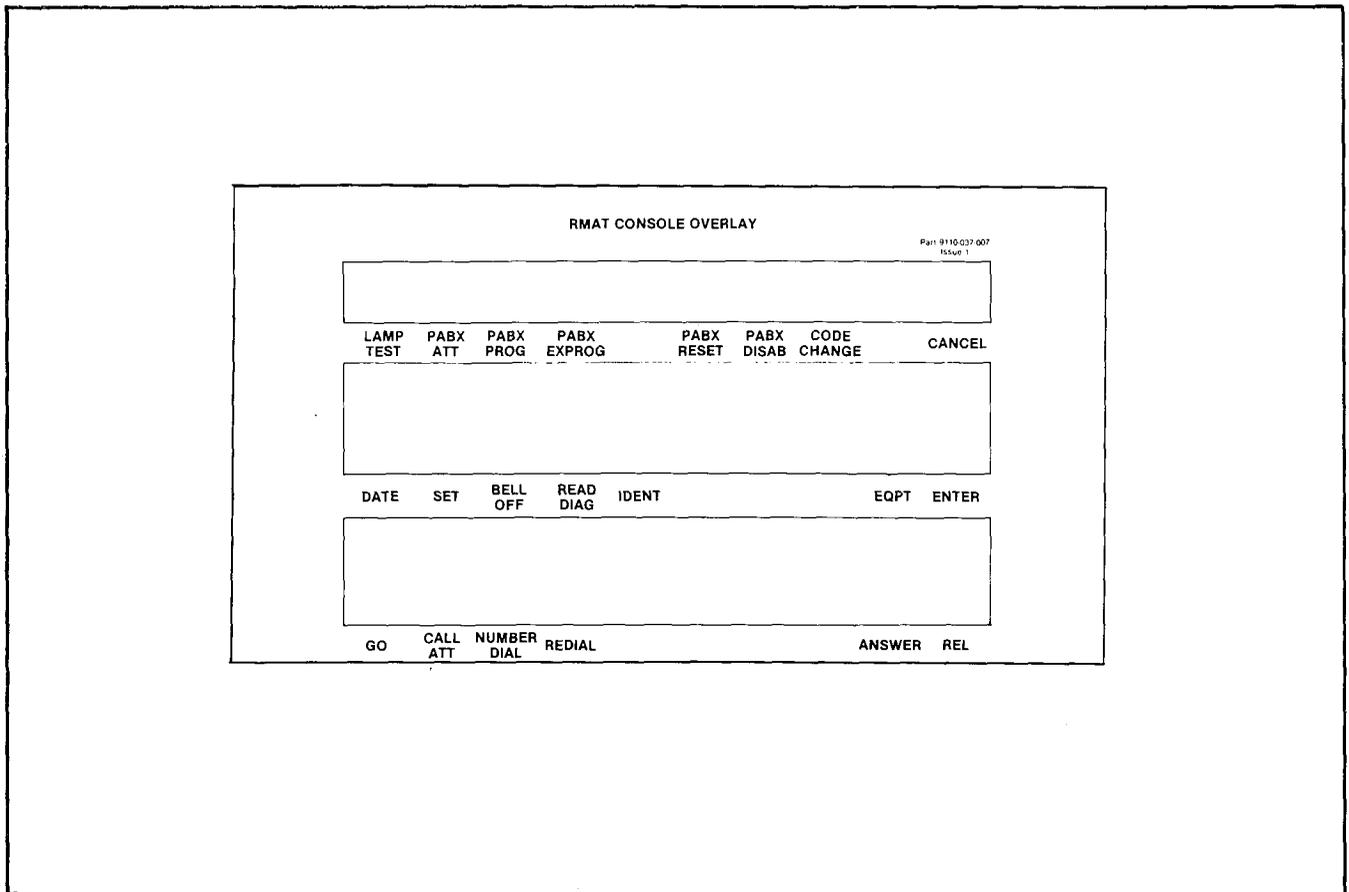

Fig. 4-1 Programming Overlay
4.05 Table 4-4 is a list of error codes that may appear on the console during operation of the system. Table 4-5 is a list of programming error codes that may occur during standard programming of the system. Table 4-6 is a list of Standard programming confirm codes. Table 4-7 is a list of programming error codes that may occur during extended programming of the system. Fig. 4-1 illustrates the three console overlays available for system programming.